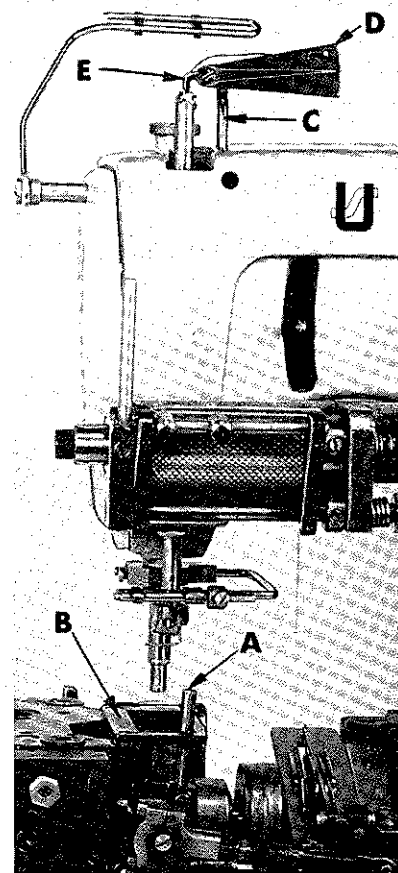

Fig. 5
Insert the pin (A, Fig. 5) in the looper rocker. Place the gauge plate (B) on the throat plate seat using the throat plate screws for attaching. Place the shank (C) of the indicator (D) in the needle thread take-up wire hole. Turn the handwheel in operating direction until the pin (A) contacts the edge of gauge plate (B) and set the indicator (D) so that the left end of the pointer (E) rests on top of the needle bar and the right end of the pointer aligns with "0". Tighten the set screw to secure the indicator in this position. Turn the handwheel in the reverse direction until pin (A) again contacts gauge plate (B). If the motions are in synchronization, the pointer of the indicator will return to the same reading. A variation of one graduation on the scale is allowable. If the reading is higher on the scale when the handwheel is turned in the operating direction, the looper drive lever shaft will have to be moved to the rear. If the reading is lower, the looper drive lever shaft will have to be moved to the front.